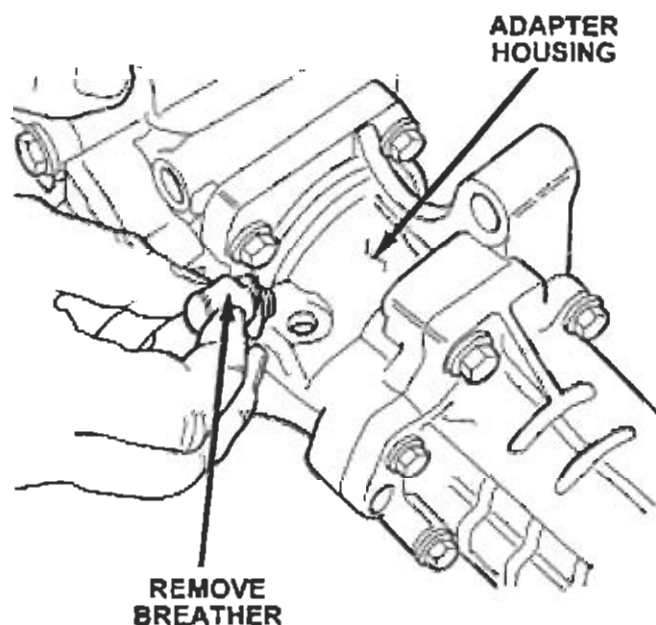

Figure 4
14. Remove the transfer case breather (Figure 4). Clean the breather and set it aside for later re-use.